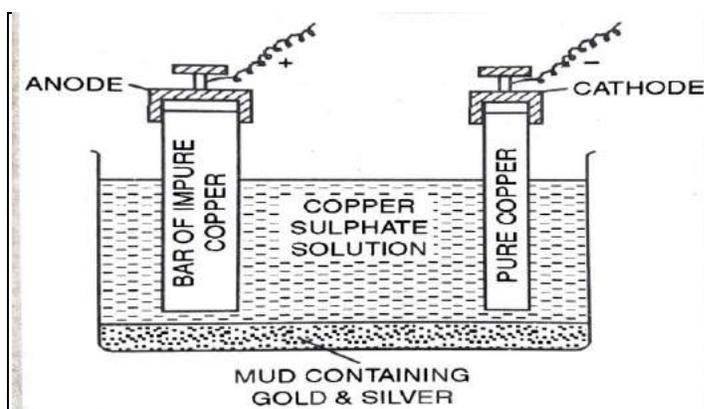

Fig. 7.5 Electrolytic Refining
- (ii) **Electro refining:** - This method is employed to refine the less electropositive metals such as Zn, Pb, Cu, Al. The impure metal bar is used as anode while a pure metal (same metal) bar is taken as cathode (Fig. 7.5). Both the electrodes are dipped in a suitable aqueous salt solution of the concerned metal. During the process of electrolysis, the impure metal dissolves in its aqueous salt solution providing metal ions which get discharged and deposited at the cathode.